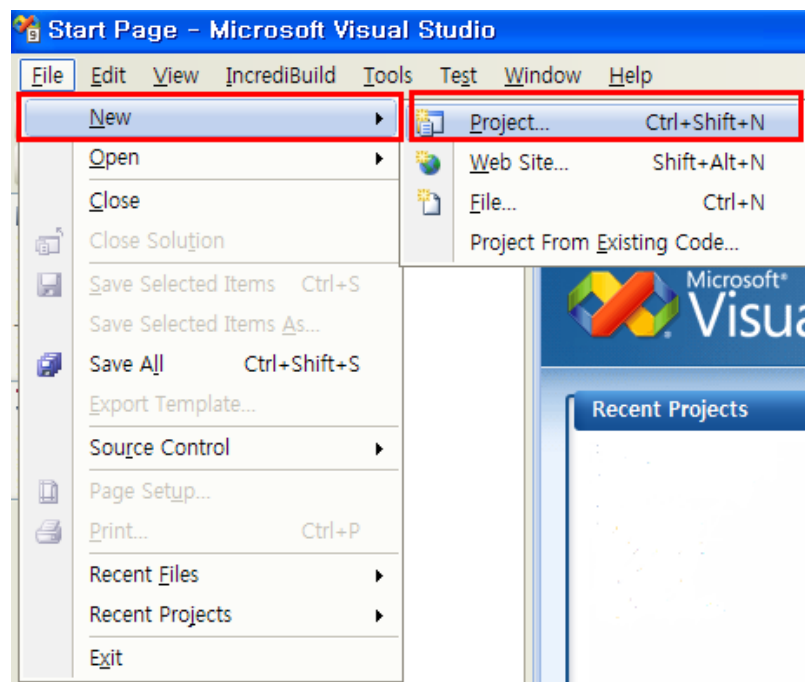

Figure 1. Selection of project menu
- 1) Select File > New > **Project** (Figure 1).